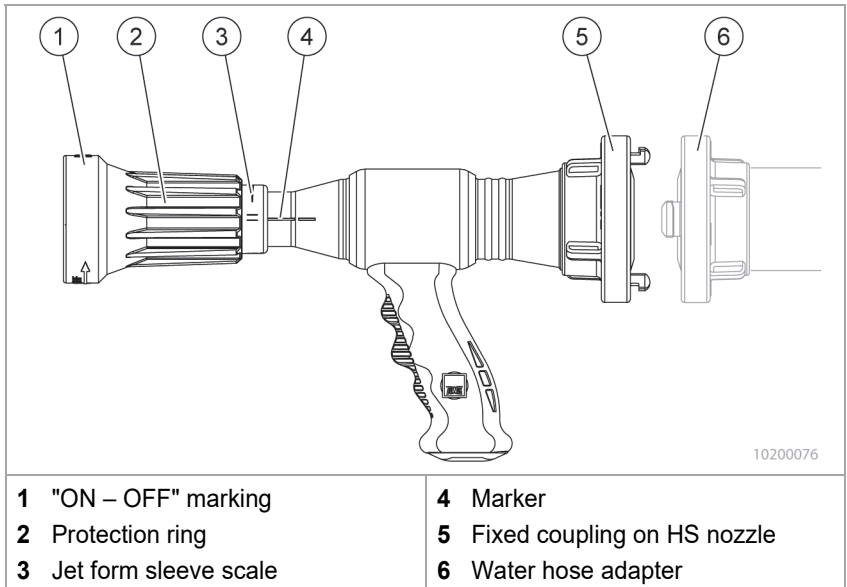

Fig. 2 Handling
- ✓ The marker (Fig. 2/4) on the nozzle head is in the "OFF" position (Fig. 2/3).
1. By hand or with the use of a suitable coupling spanner, attach the coupling of the water hose (Fig. 2/6) to the coupling on the HS nozzle (Fig. 2/5).
The extinguishing agent discharge is started. As soon as the nozzle head of the HS nozzle is moved back into the "OFF" position (Fig. 2/3), the extinguishing agent discharge stops.
1. By turning the protection ring (Fig. 2/2) you can switch between full and spray jet during use. The position can be read off the scale of the jet form sleeve:
1. Turn the nozzle head of the HS nozzle to the "OFF" position (Fig. 2/3).
4. By hand or with the use of a coupling spanner, release the coupling of the water hose (Fig. 2/6) from the fixed coupling on the HS nozzle (Fig. 2/5).